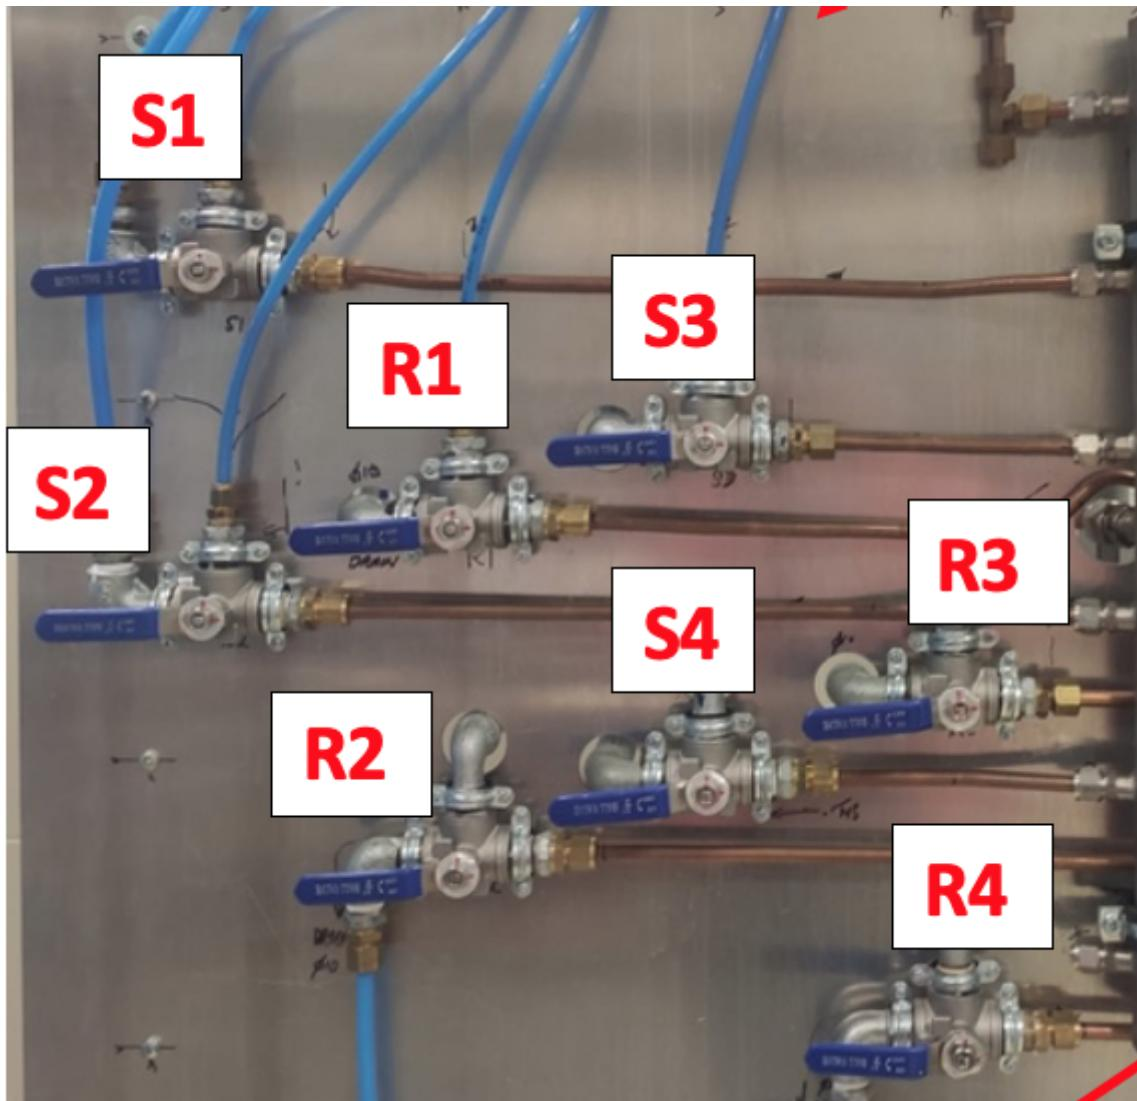

Figure 7
5. All the valves in the distribution panel should be in the horizontal position as shown in Figure 7 , this insures that the water will flow in the chambers.